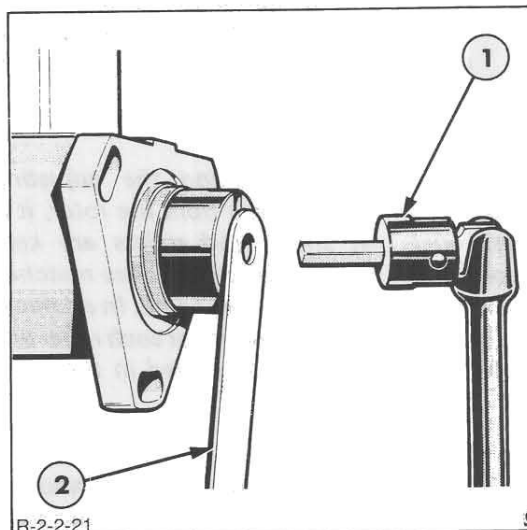

Figure 21
17. Retain the drive hub with tool No. 7144-733 unscrew the drive hub securing screw using tool No. 7144-261, Figure 21. Remove the screw, spring flat washers and the drive hub.